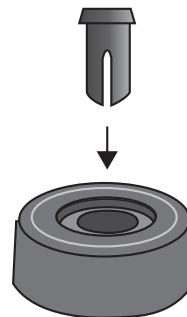

Figure 13. Inserting the Rivet Housing into the Bumper Foot
2. Inset a rivet housing into a bumper foot. Refer to Figure 13.